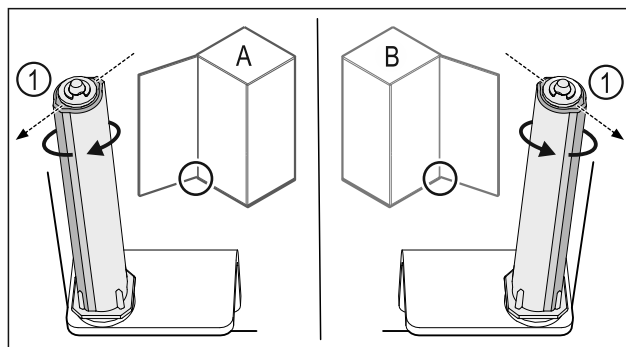

Fig. 43 Left-hinged (A) / Right-hinged (B)
- Turn the closing system against the resistance until the bar of the closing system Fig. 43 (1) points outwards.